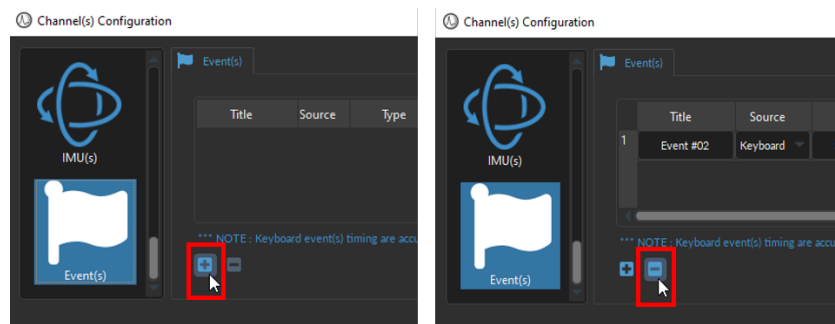

Figure 16.59: Adding and Removing Events
To add a new **Event**, select the + sign at the bottom of the window (Fig. 16.59, left). To remove a Keypress Event, use the - button (Fig. 16.59, right).
- Note: Selecting the + button (without clicking the *Add* button or the *Close* button of the *Channel Configuration* window) will **automatically** add the Event channel at the **bottom** of the Acquisition View window, below any pre-existing channels (Fig. 16.59).